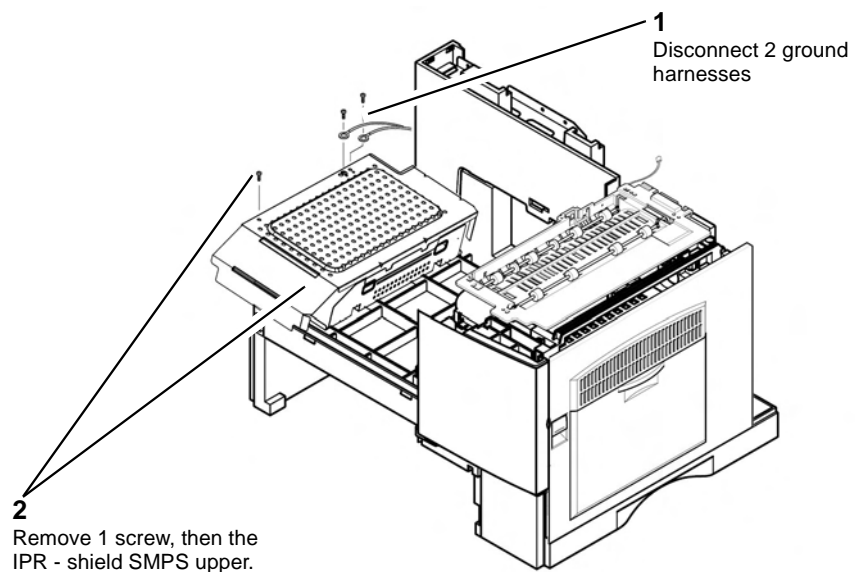

Figure 1 IPR - shield SMPS upper removal
3. Remove the IPR - shield SMPS upper, Figure 1.